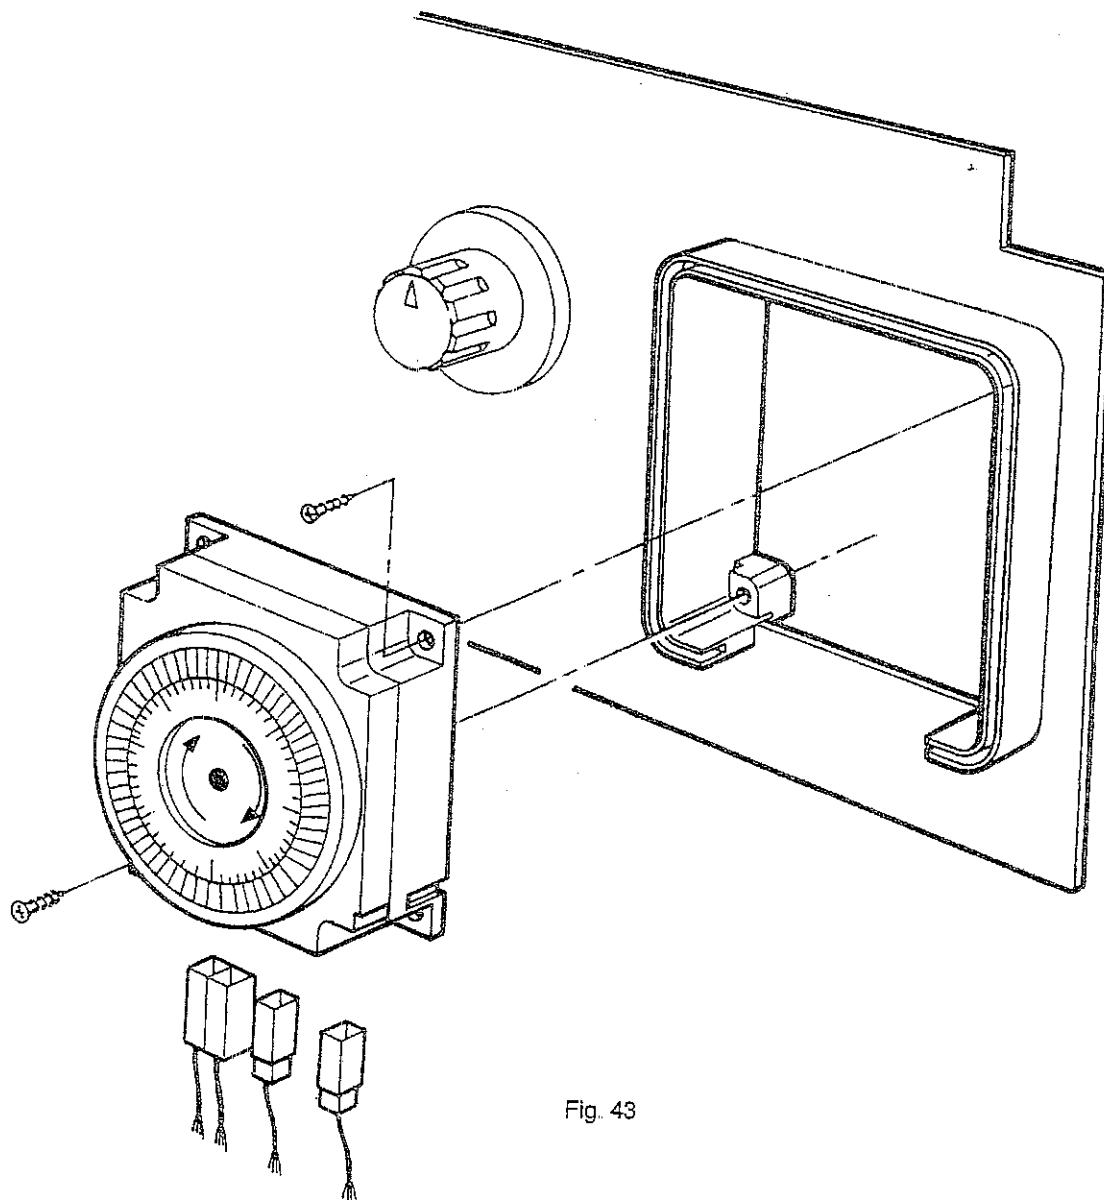

Fig. 43
- c) Remove the time clock from the control panel (fig. 43).
- d) Re-assemble in reverse order (refer to fig. 43 for replacement of the time clock)